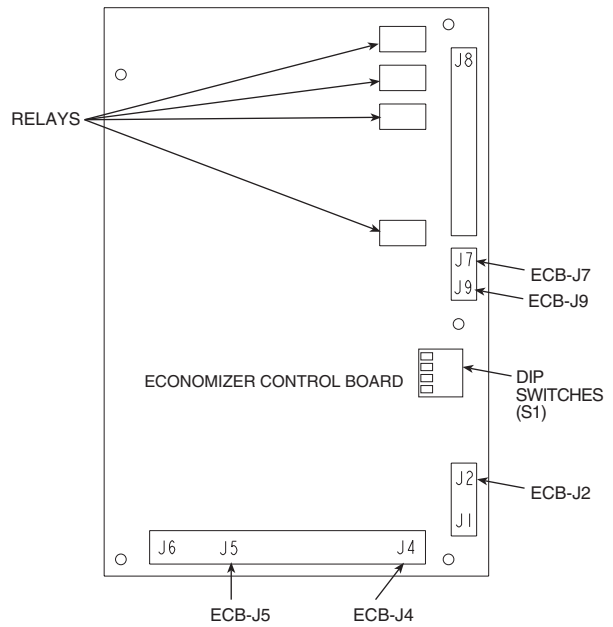

**Fig. 6 — Unit Control Box**
6. Install the economizer board (P/N 50ZZ401127) into the control box using the no. 6, 3/4-in. screws provided. The economizer board will mount into the pre-drilled holes on the right side flange of the control box as shown in Fig. 6.